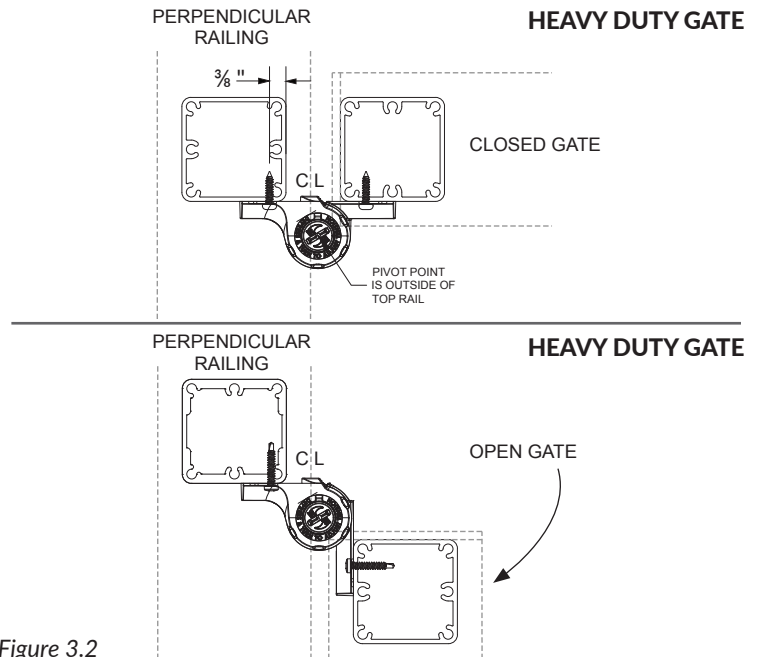

Figure 3.2
*In gate configurations where one or both sides are perpendicular, larger gate gaps are required for Top Rails that protrude over the posts (Series 200, 350, 450, and 250 with drink rail). The larger gaps allow the gate to open completely (see Figure 3.2).
Position hinges on the gate post, about 3" down from the top and up from the bottom. Standard Hinges are centered between posts. Heavy Duty Hinges must be offset to allow the gate to open completely (see Figure 3.2).